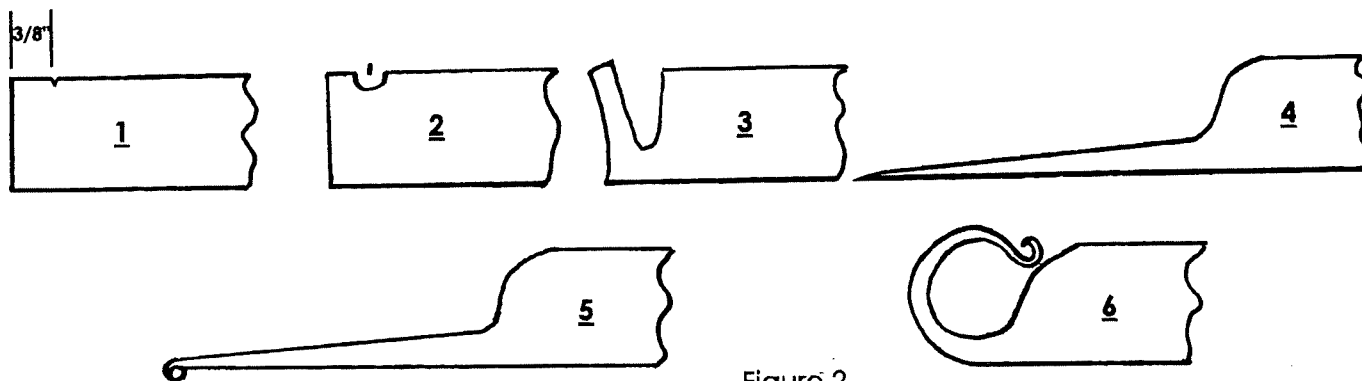

Figure 2
**Process:** Make the body of the tool by cutting 4" off of the 52" piece of  $3/16'' \times 1 \ 1/4''$  stock. Set the 4" piece aside. Take the 48" piece, measure back from one end  $3/8''$  and mark the edge with a chisel. (See step 1 of Figure 2, the 6 step Figure 2, below). Heat the piece to yellow and, with a  $1/4''$  diameter fuller, fuller down from the edge about  $7/8''$  deep (Figure 2, steps 2 and 3). Reheat and draw this fullered portion out to about  $4 \ 1/2''$  long, tapering from about  $1/4''$  at the base of the taper to a point (Figure 2, step 4).
-Now, reheat an inch or so of the tapered end (carefully; it will burn easily) and turn a  $1/4''$  scroll as shown in Figure 2, step 5. Reheat the whole tapered end, quench the little scroll quickly (so it won't deform when hit with the hammer, and turn the scroll end as shown in Figure 2, step 6. this scroll makes a handy "hole" to use in hanging your tenon measuring tool.